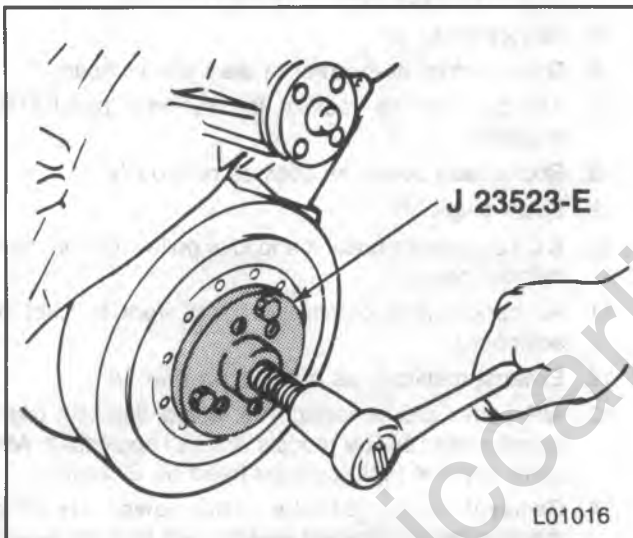

Figure 10 — Removing the Torsional Damper
↔ Remove or Disconnect (Figure 10)
6. Torsional damper. Use J 23523-E (figure 10).